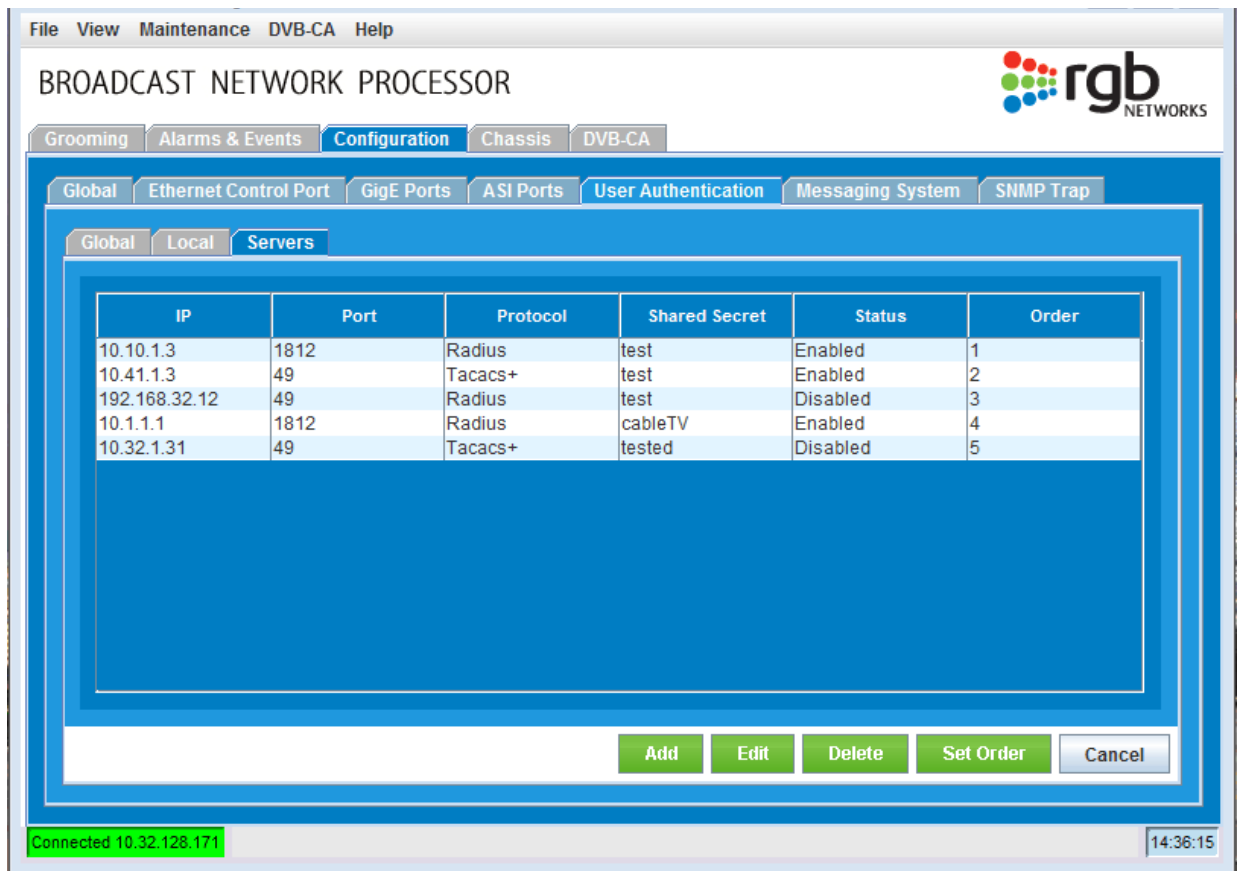

Figure 49. User AUthentication - Servers
2. Select the highest numbered AAA server from the **Order** column (see Figure 49 on page 63) and click the **Delete** button.